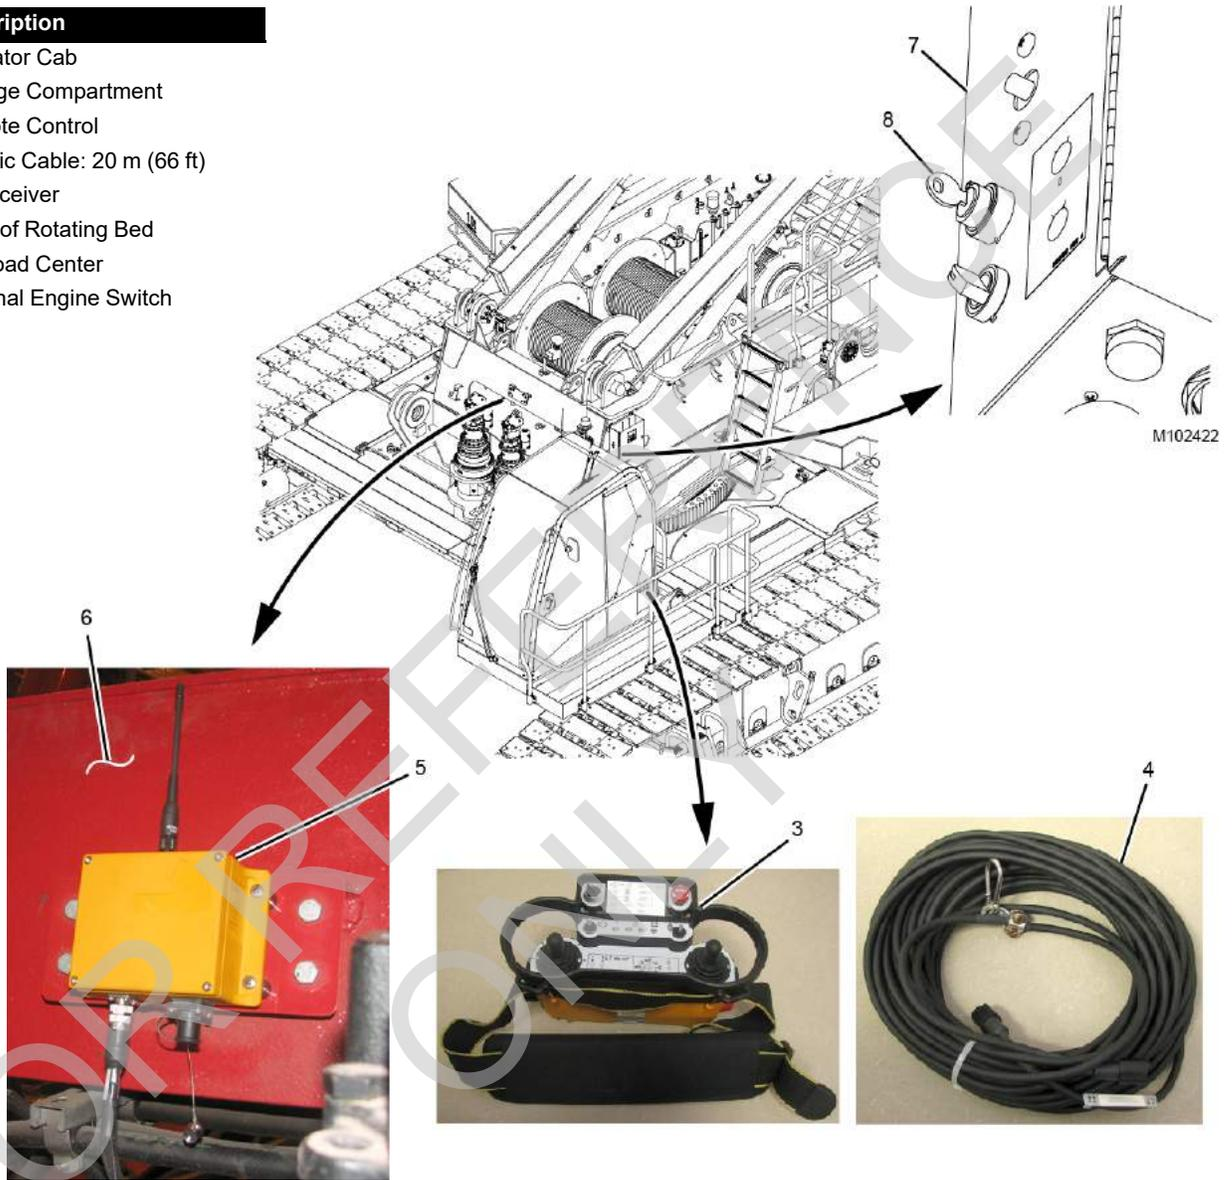

Figure 4-7
See Figure 4-7 for the following procedure.
**NOTE** To stop the engine if it was started from the remote control, turn the external engine switch (8, Figure 4-7 on page 4-8) COUNTERCLOCKWISE to the STOP position.